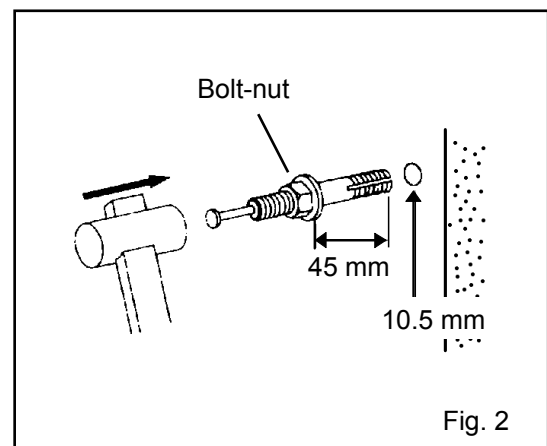

Fig. 2
If holes can be opened on the wall, open a hole with a 10.5 mm diameter and fix the cabinet by using the special bolt-nut supplied with this cabinet. This bolt-nut can be used only on concrete walls. See Fig. 2.
5. Pour 200 ml of 10% glycerol (or other solution) into the monitor bottle after removing the cap as shown in the figure 2.